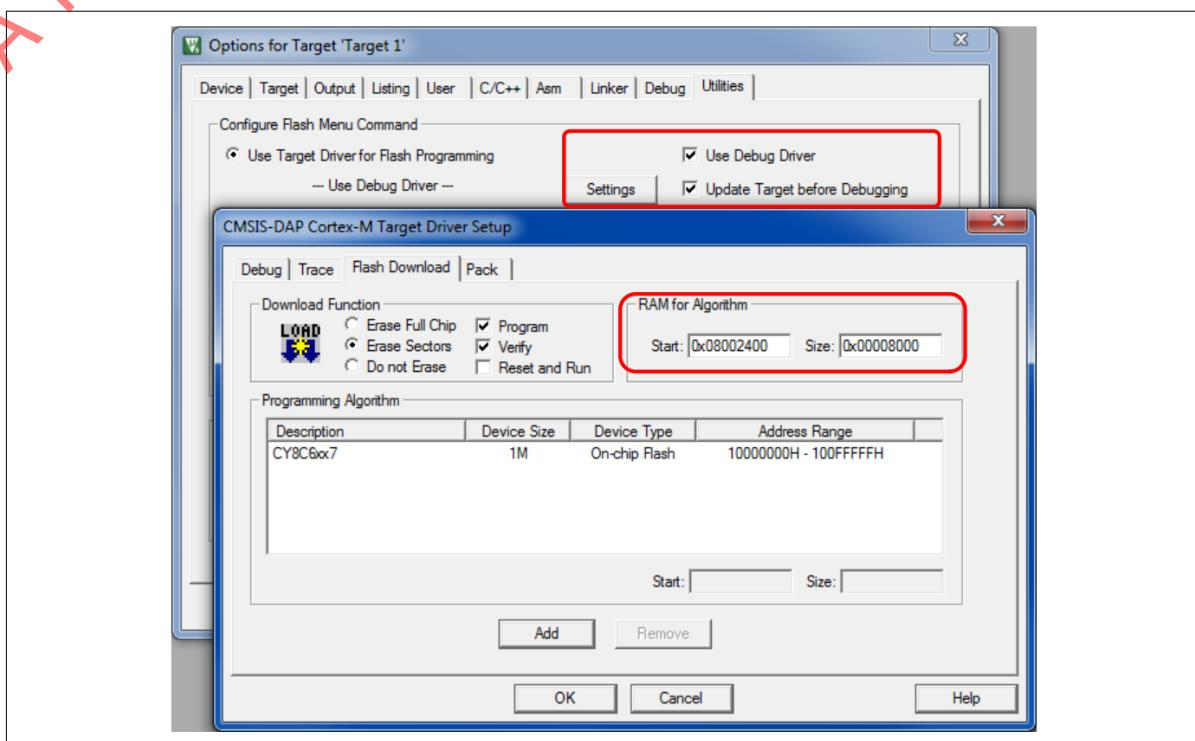

Figure 430 Utilities options for CM4 project
- In the **Options** dialog, **Utilities** tab, confirm that **Update Target before Debugging** is checked, as Figure 430 shows. Set the RAM for Algorithm values as indicated. Checking **Reset and Run** is optional but convenient
Build the projects in sequence; build the CM0+ project first. Note that µVision has a batch build feature to automate the process. After building is successfully completed, right-click the BlinkyM4 project and set it as the active project. Then test your build options by (1) erasing flash (**Flash > Erase**), and (2) downloading the project (**Flash > Download**) and confirming correct operation. If you did not select Reset and Run (see Figure 430), you must press the kit reset button (RST / SW1) to start operation.